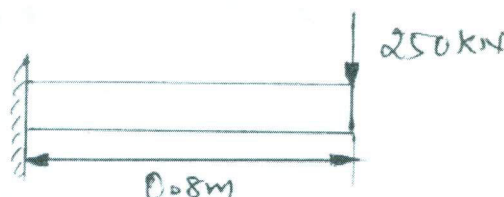

Fig.Q6(a)
- 6 a. A cantilever beam subjected to point load of 250 kN as shown in Fig.Q6(a). Determine the deflection at the free end and the support reactions. Take $E = 200\text{GPa}$, $I = 4 \times 10^6\text{ mm}^4$. (10 Marks)